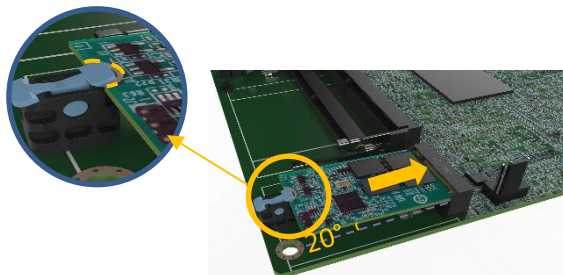

Figure 4-13: Securing the M.2 Module
Step 4: Press the M.2 module down until it is secured into place by the retainer. (See **Figure 4-13**)